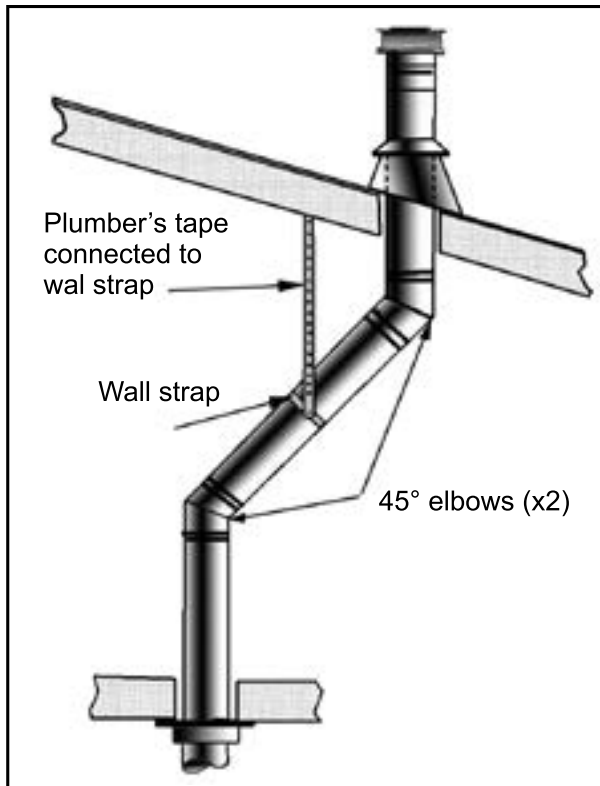
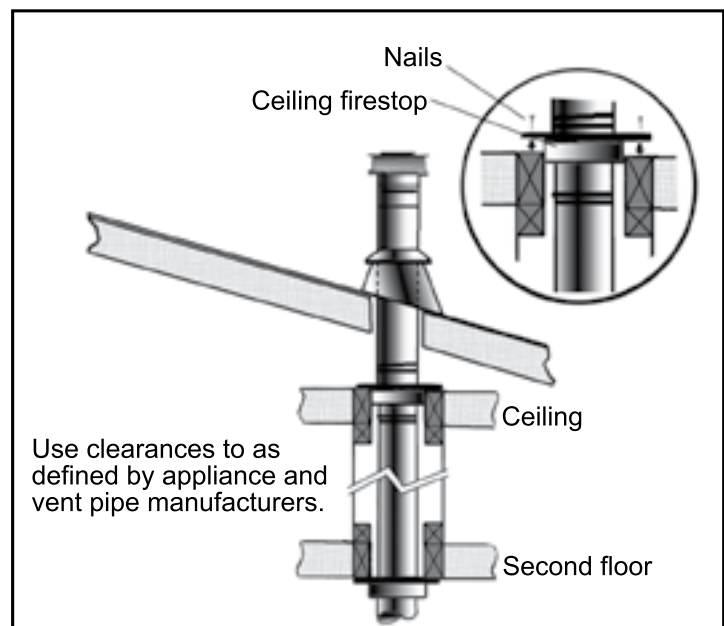

Figure 64: Use of Wall Straps.
Figure 65: Multi-Story Vent Pipe Installation
- (1) If an offset is necessary in the attic to avoid obstructions, it is important to support the vent pipe every **3' (914 mm)**, to avoid excessive stress on the elbows, and possible separation. Wall straps are available for this purpose (see Figure 64).
- (2) When ever possible, use 45° degree elbows instead of 90° degree elbows. The 45° degree elbow offers less restriction to the flow of flue gases and intake air.
- (3) For multi story installations; a ceiling firestop is required at the second floor, and any subsequent floors (see Figure 65). The opening should be framed to **10" (254 mm) x 10" (254 mm)** inside dimensions, in the same manner as shown in Figure 65.
- (4) Any occupied areas above the first floor, including closets and storage spaces, which the vertical vent passes through, must be enclosed. The enclosure may be framed and sheet-rocked with standard building materials. However consult the appliance manufactures installation instructions for the minimum allowable clearance between the outside of the vent pipe, and the combustible surfaces of the enclosure. Do not fill any required air spaces with insulation.